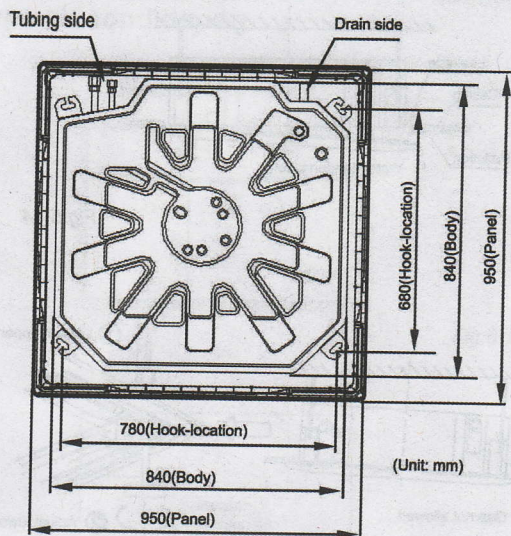
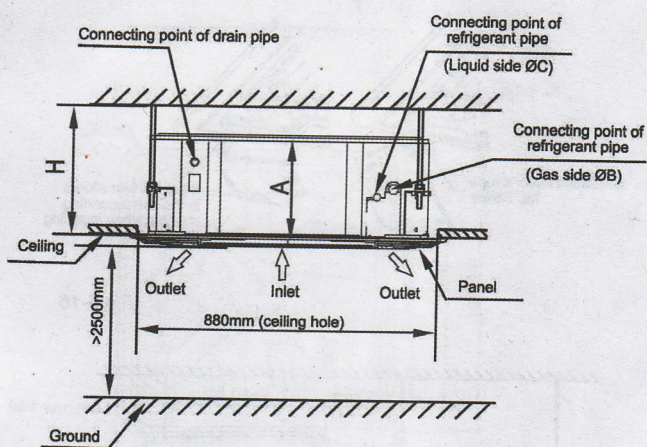
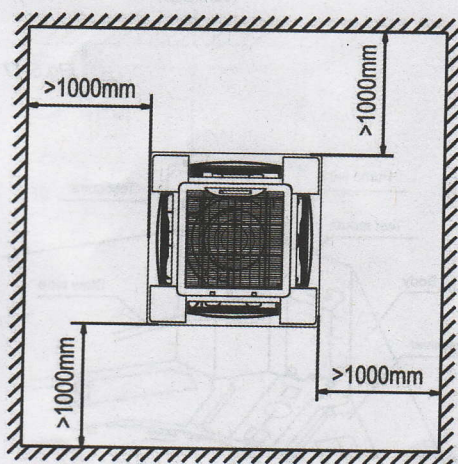

Fig. 5-1
Fig. 5-2
Fig. 5-3
(Refer to Fig.5-1, Fig.5-2, Fig.5-3 and Table 5-1 for specification.)
- Cut a quadrangular hole of 880x880mm in the ceiling according to the shape of the installation paper board. (Refer to Fig.5-2)